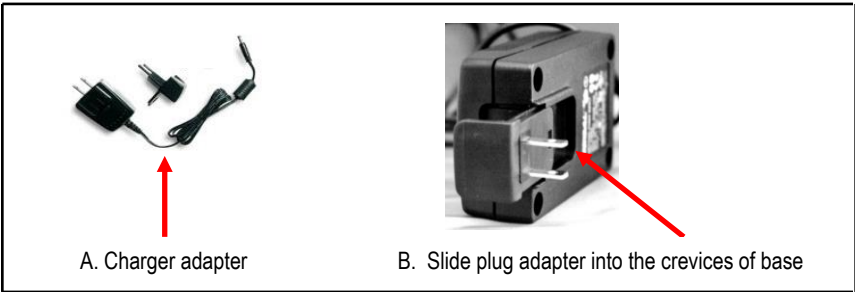

Figure 2-5: Attaching the charger adapter with the plug adapter
Figure 2-5 illustrates the assembly of the charger adapter and the plug adapter. It slides into place by guiding it down the back cavity (opening) of the power supply.
1. Assemble the charger adapter and plug adapter as illustrated in Figure 2-5. (It will be the same process for an EdgeDock5.)